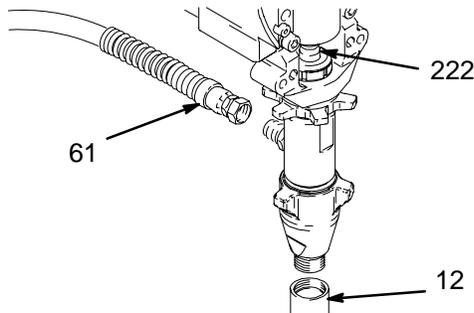

Fig. 8
3. Fig. 8. Cycle pump with piston rod (222) in its lowest position.
4. Fig. 8. Remove suction tube (61) and hose (61).